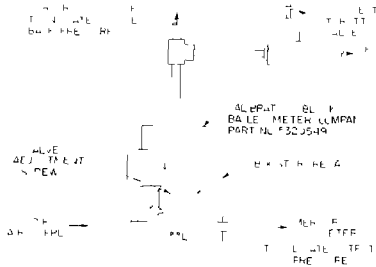

FIGURE 20 Suggested Calibration
2. Attach calibration block (Figure 19) to Relay using screws removed in step 1. Connect in calibration setup shown in Figure 20. Connect mercury manometer to Booster Relay output pressure connection (marked